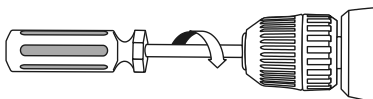

Fig. 8
3. Tap the hex key sharply with a mallet (4) in a clockwise direction. This action will loosen the screw in the chuck for easy removal.
6. Remove the chuck screw using a #2 screwdriver (Fig. 8)